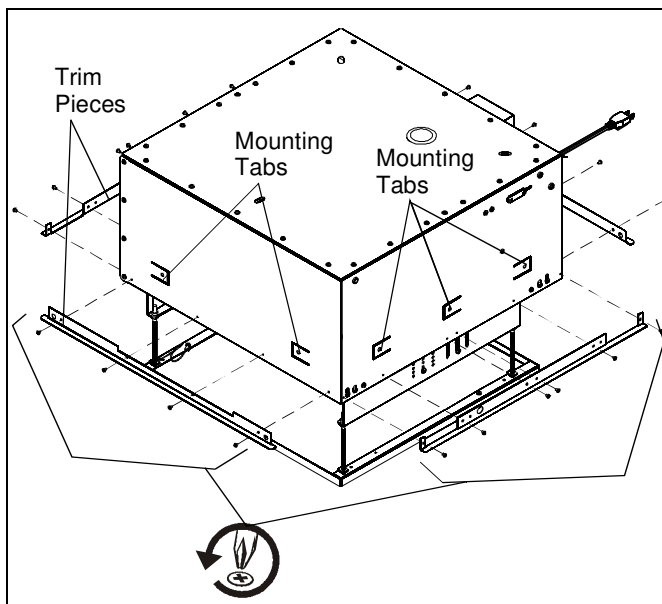

Figure 9
NOTE: The side trim may need to be removed to properly fit the lift into a 600x600mm suspended ceiling. Remove and discard retaining screws and trim pieces from each of the four sides. (See Figure 9)
1. Use 1/4" x 1-1/2" (minimum) Grade 2 lag screws (not provided) to secure SL151i to the joists or wood framework, using the mounting tabs located on the sides of the SL151i housing. (See Figure 9)